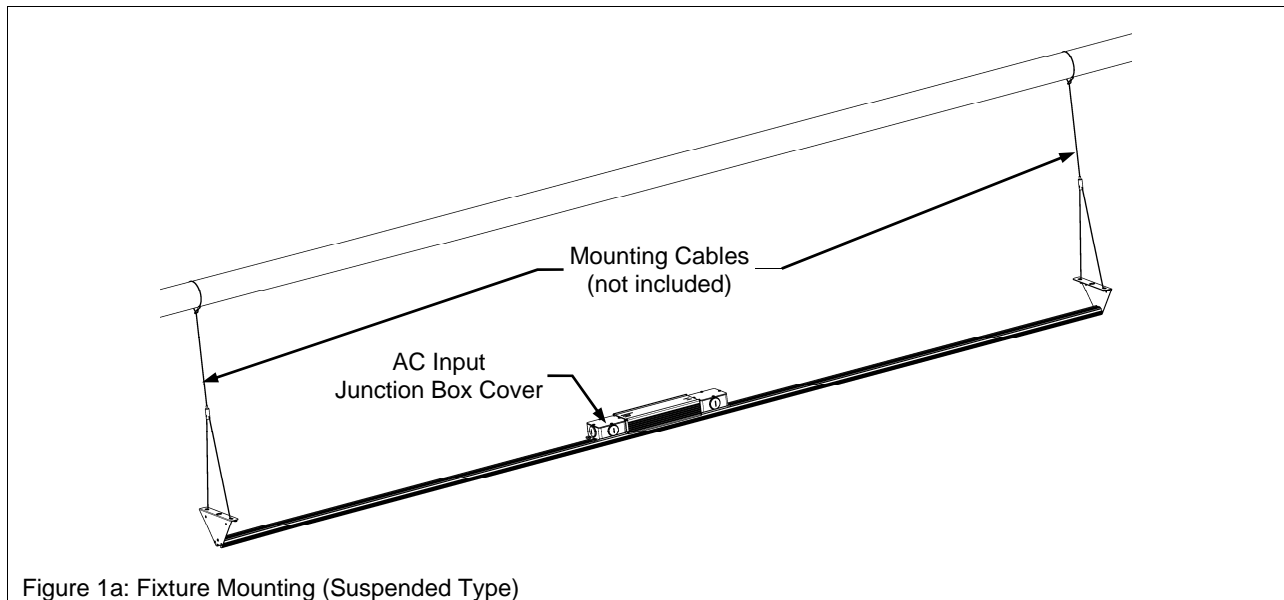
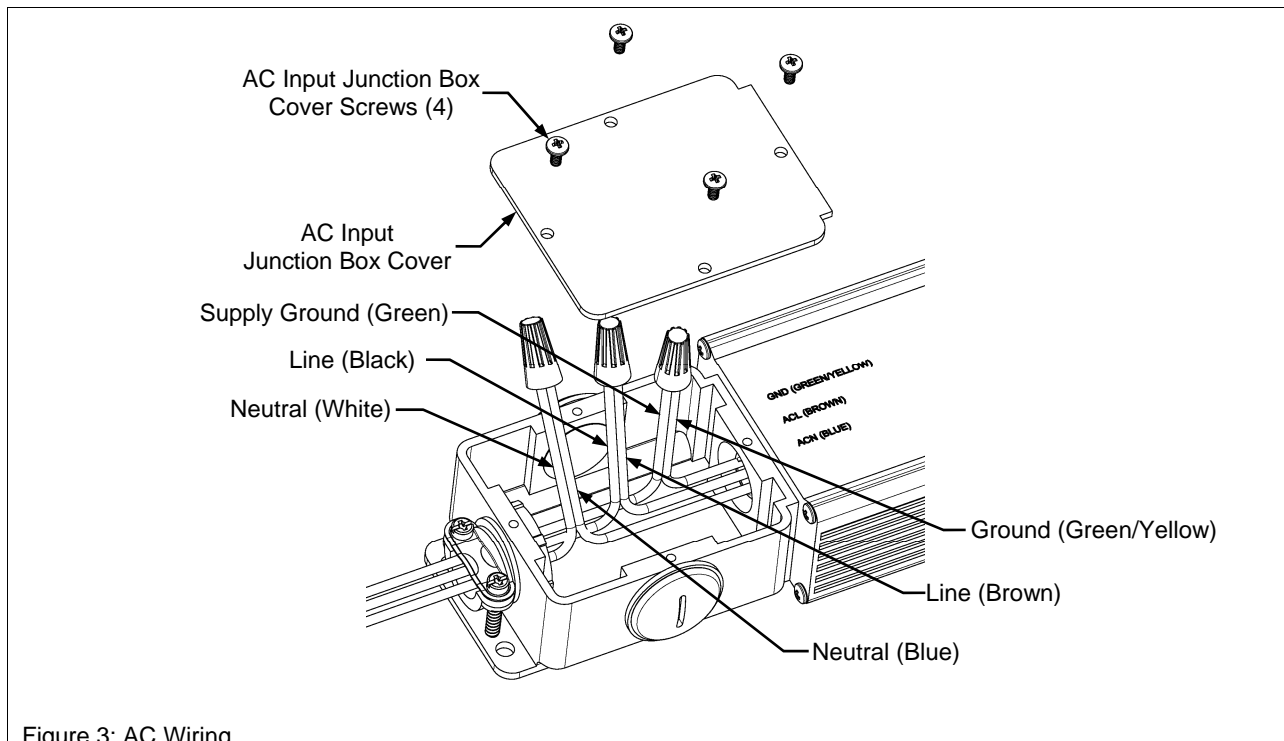

Figure 1a: Fixture Mounting (Suspended Type)
Figure 3: AC Wiring
- 3) **AC Wiring.** To connect AC power, remove AC input junction box cover (Fig. 1a or 1b), unscrew one location of the AC input junction box caps and install appropriate cord grip (not supplied). Route AC power wires through cord grip and tighten cord grip. Make power connections (Fig. 3) per national and local electrical codes. Connect supply ground to ground wire in box, supply neutral to neutral wire in box and supply voltage line to voltage wire in box. Replace AC input junction box cover when all connections have been made.